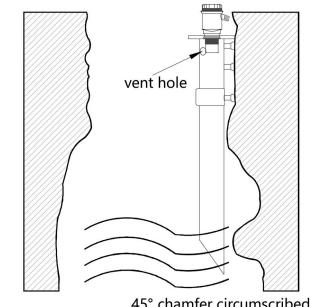

Figure 2
4) If the wall of the pool or tank is uneven, there are other obstacles, the water surface fluctuates violently, and there are foams or other impurities on the water surface, the meter needs to follow the guide pipe, or connect the pipe to the bottom of the pool or tank, with a pipe diameter  $\geq 110\text{mm}$ , Leave a gap at the bottom of the pipe so that the liquid level in the extension pipe is equal to the liquid level in the pool or tank. On the extension pipe, near the probe, open a few small holes so that the air in the pipe can communicate with the outside of the pipe! (Figure 2)